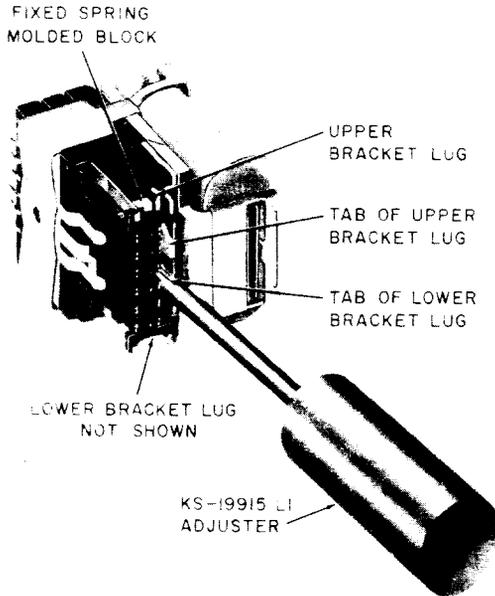
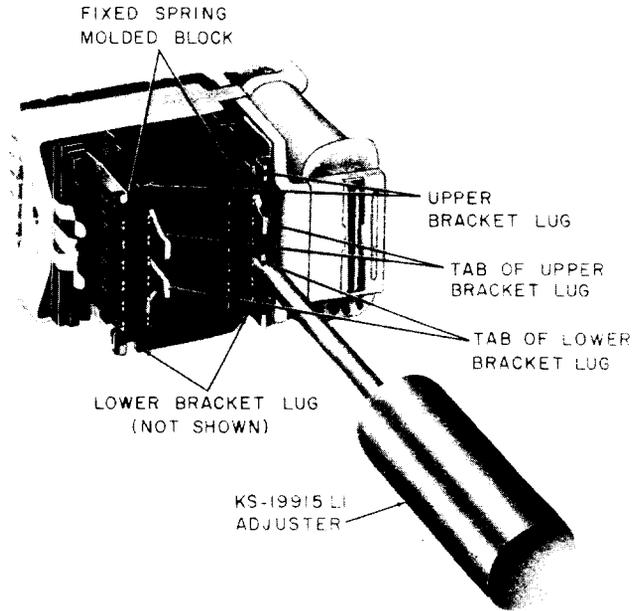

Fig. 12—Method of Adjusting Contact Separation (6-Position Relay Shown)
Fig. 13—Showing Tabs for Adjusting Legs on 12-Position Relay
(1) Adjustments to meet the make, break, and sequence contact requirements are made by adjusting the position of the associated fixed spring molded block. The block is repositioned by adjusting the bracket lugs which press against the upper and lower portions of the block (see Fig. 12). In the case of 12-position relays (see Fig. 13), two fixed spring molded blocks are used. For these relays, the contact requirements are met by repositioning each molded block as required. When a fixed spring molded block is repositioned, the fixed spring contacts are moved toward or away from the movable spring contacts, depending on the adjustment of the bracket lugs. The distance that each fixed contact is moved will vary in an inverse
(2) **Make Contacts:** To adjust the make contacts, place the KS-19915, L1, adjuster on the tab of the bracket lug to be adjusted taking care to avoid touching the contact springs (see Fig. 12). To increase the separation between the movable make and fixed contacts, rotate the adjuster slightly counterclockwise on the lower tab and clockwise on the upper. To decrease the separation, rotate the adjuster slightly clockwise on the lower tab and counterclockwise on the upper. When the contacts that require adjustment are located near the center of the relay, the best adjustment is usually obtained by adjusting both the upper and lower lugs of the bracket. After completing the adjustment, recheck the contact make and break and contact sequence requirements.
(3) **Break Contacts:** To adjust the break contacts, place the KS-19915, L1, adjuster on the tab of the bracket lug to be adjusted, taking care to avoid touching the contact springs (see Fig. 12). To increase the separation between the movable break and fixed contacts, rotate the adjuster slightly clockwise on the tab of the lower lug and counterclockwise on the upper. To decrease the separation, rotate the adjuster slightly counterclockwise on the tab of the lower lug and clockwise on the upper. When the contacts that require adjustment are located near the center of the relay, the best adjustment is usually obtained by adjusting both the upper and lower lugs of the bracket. After completing the adjustment, recheck the contact make and break and contact sequence requirements.
(4) **Sequence Contacts (EMBs and EBM's):** To adjust the sequence contacts, proceed as covered in (2) and (3) for make and break contacts, respectively.